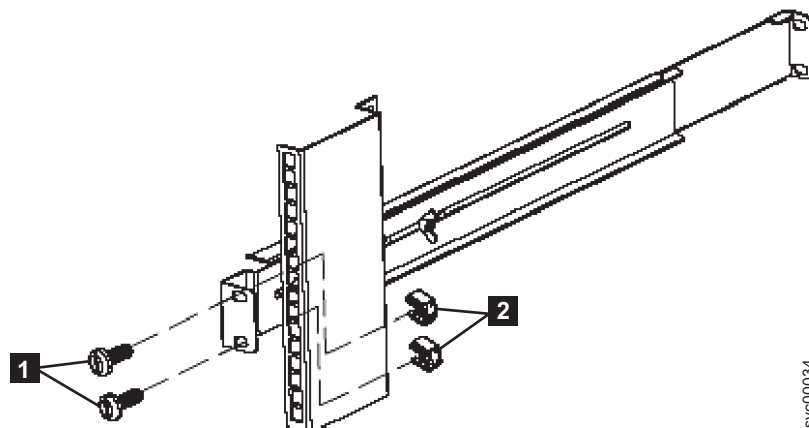

Figure 9. Securing the rear rail on the 2145 UPS-1U
7. Using two M6 × 10 screws (**1** in Figure 9) and two clip nuts (**2**), attach the rail to the rear of the rack. The customer's rack might be different than the one shown here, and if so, might require different clip nuts or fasteners.